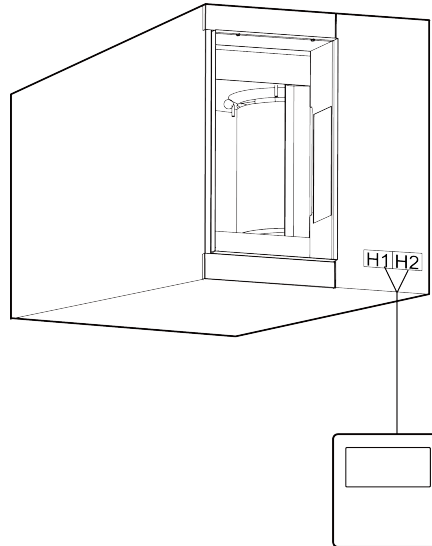

Fig.5.4.1
1) Fig 5.4.1 shows the installation of wired controller.